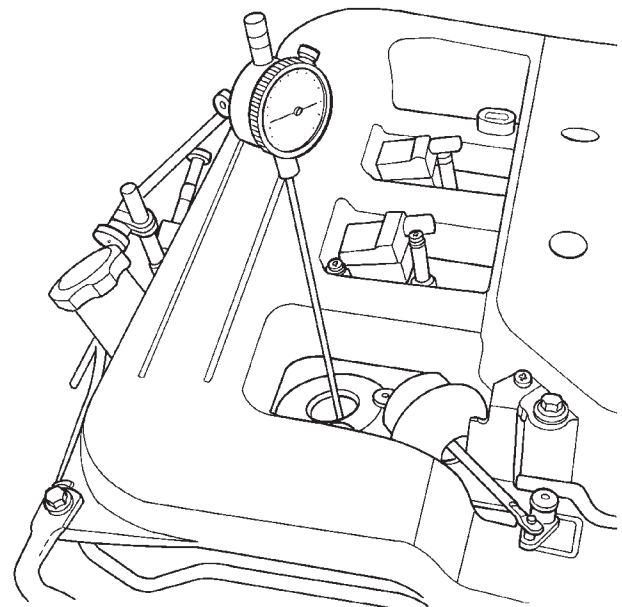

Fig. 54 Dial Indicator Locating Piston at TDC
(2) Install a dial indicator in number 1 cylinder to check TDC of the piston (Fig. 54). Rotate the crankshaft until the piston is at exactly TDC. This is important for good engine performance.
(7) Holding the tensioner pulley against the belt, install the tensioner into the housing and tighten to 28 N·m (250 in. lbs.).
(8) When tensioner is in place pull retaining pin to allow the tensioner to extend to the pulley bracket.
(9) With number 1 piston at TDC (Fig. 54), hold the camshaft sprocket hex with a 36 mm (1 7/16 in.) wrench and tighten the camshaft bolts to 102 N·m (75 ft. lbs.) plus a 90 degree turn for the Right side and 115 N·m (85 ft. lbs.) plus a 90 degree turn for the Left side.
(10) Remove dial indicator and install spark plug.
(11) Remove camshaft alignment Special Tools 6642 and install cam covers and O-rings. Tighten fasteners to 28 N·m (250 in. lbs.).